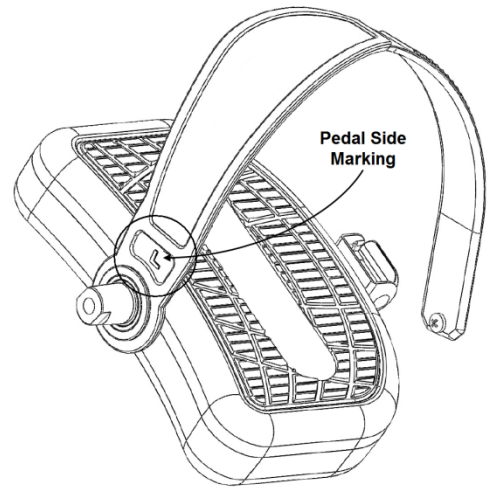

Fig. 14
13. Attach the left & right plastic foot stand covers (Fig. 14) over the mounting plates and secure the covers from the underside by bolting four button head cap screws along with washers into the corresponding four available holes.